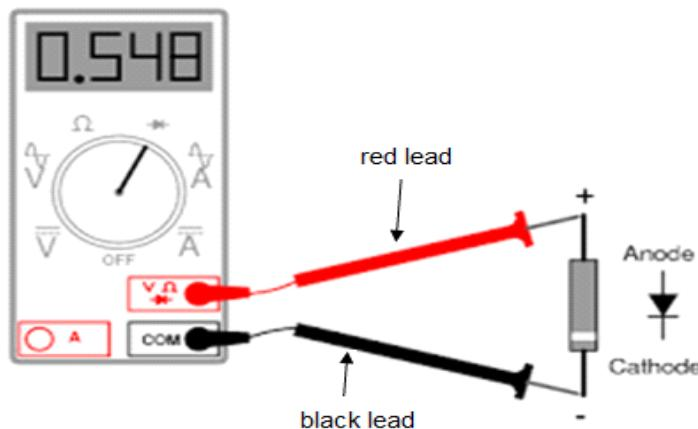

**FIGURE 5.3:**A simple LED circuit
5.7 Calculate the current that will flow through the LED in Figure 5.3. (3)